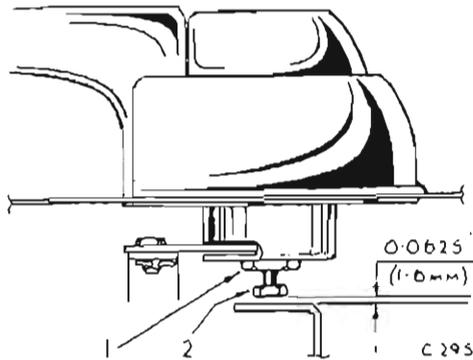

Fig. 52. Lock plunger adjustment
In this position release the locknut (Fig. 52) (1), screw the plunger bolt (2) in or out as required, and re-tighten the locknut before releasing the push button.